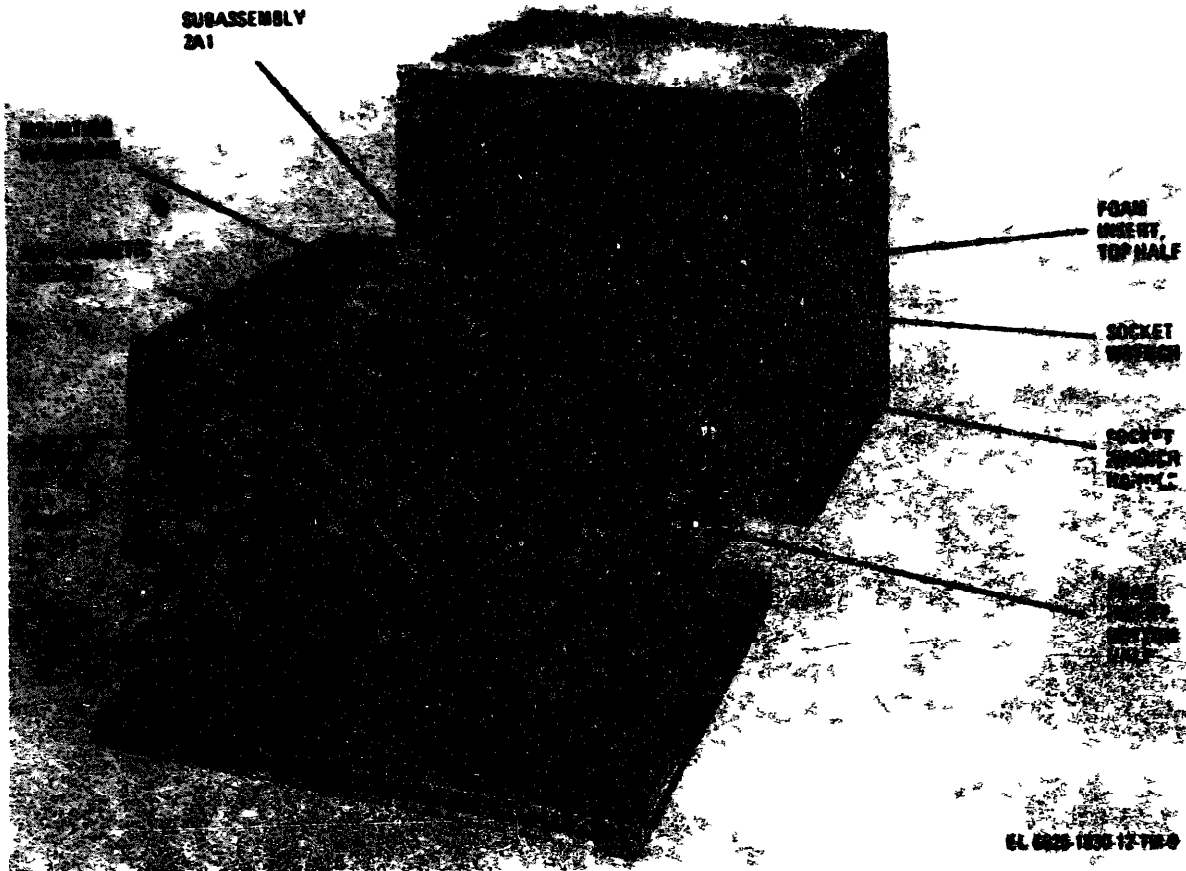

Figure 2-3 *Interface Test, Radio Frequency TS-9975/APS-94D subassembly 2A1 and minor component storage.*
(figs. 2-3 and 2-4)
- c. Remove the foam minor component storage insert from the RF test set (fig. 2-3).